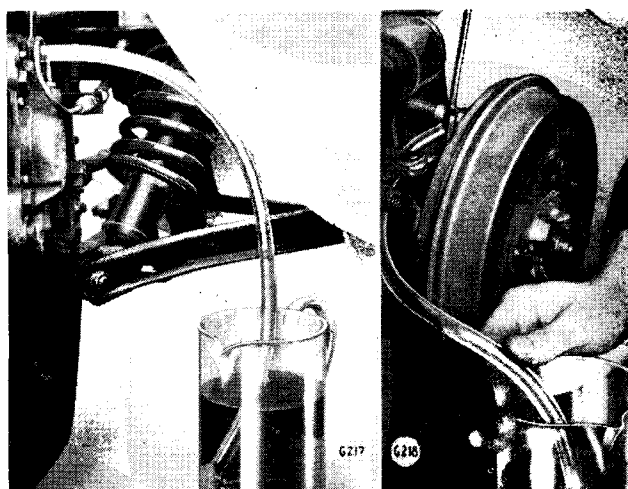

Fig. 4. Bleeding
3. Wipe clean and unplug the bleed nipple and attach to it a short length of small bore tubing Fig. 4. Hold the tube in a clean glass container partially filled with hydraulic fluid, so that its end is below the level of the fluid. Unscrew the bleed nipple one half turn.